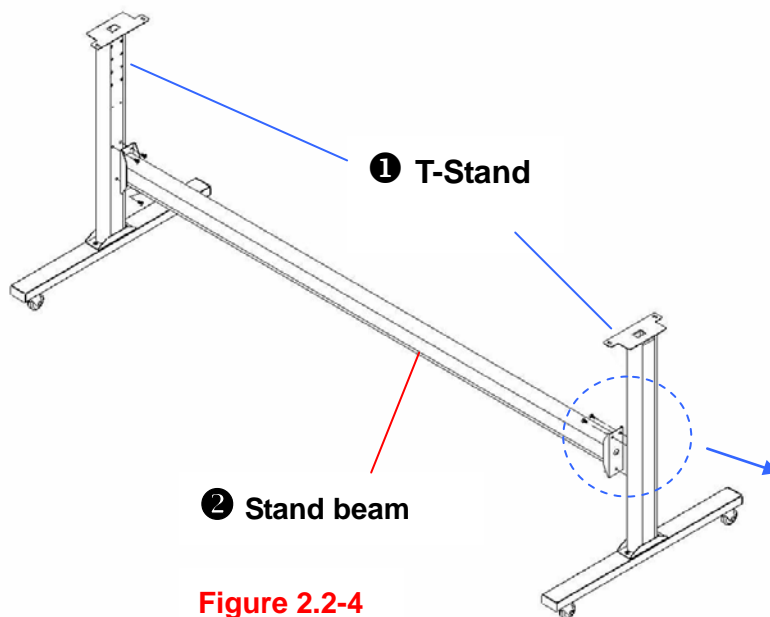

Figure 2.2-4
Place the stand beam upright on the T-stand and follow number **① ②** to assemble (See Figure 2.2-4 & 2.2-5). There is hexagon socket head screws fasten on the T-stand on both side taken as locating pins.
Position the stand beam perpendicularly to part **①** and put the screws into the holes and tighten them as Figure 2.2-5. Then the complete picture of stand will be like Figure 2.2-4.